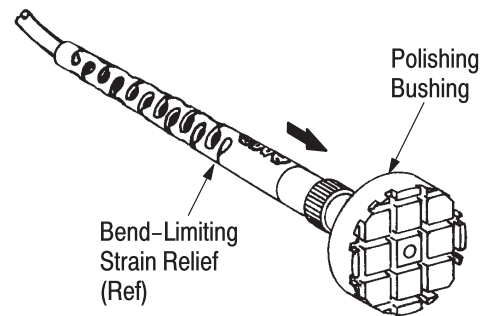

Figure 7
4. Insert the connector into the polishing bushing. See Figure 7.